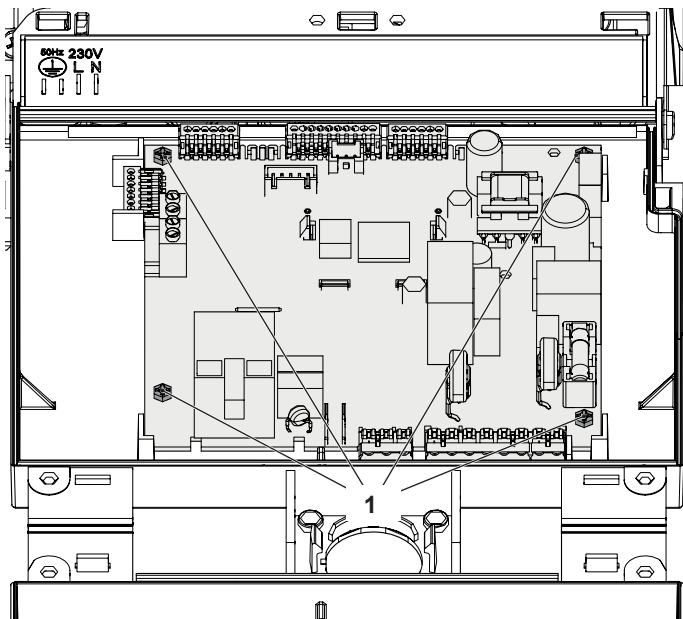

Figure 9.21
- 3 Unscrew the screws "1" (Figure 9.21).